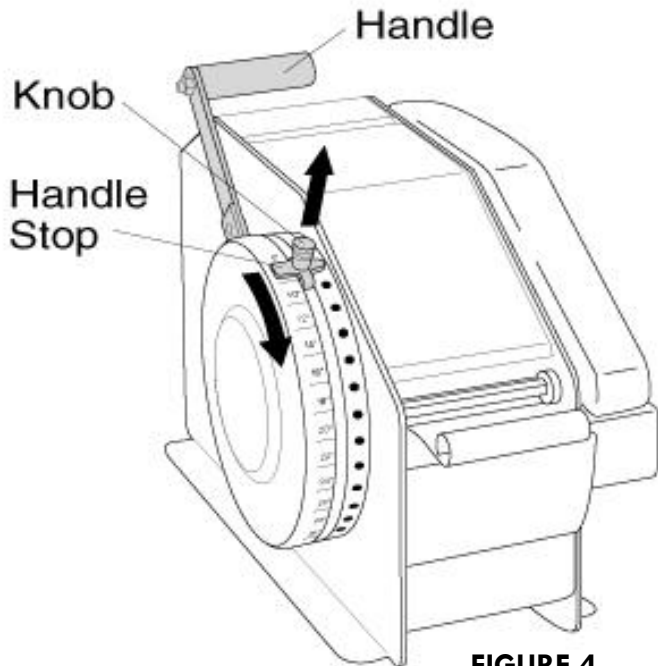

FIGURE 4
2. Lift Knob and adjust Handle Stop to required length. (Figure 4)